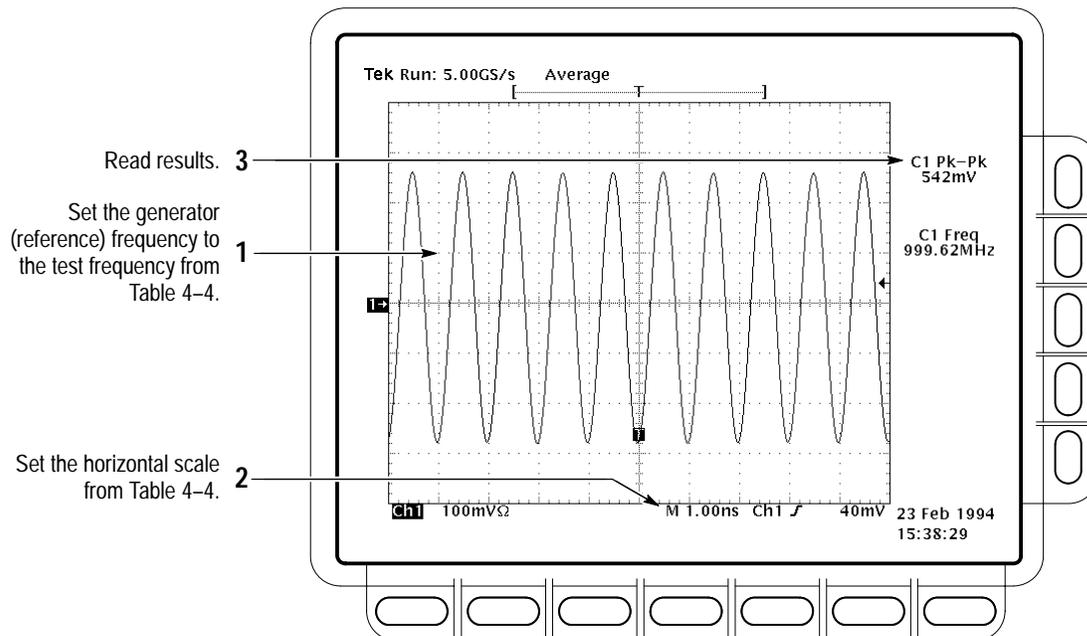

Figure 4-9: Measurement of analog bandwidth
- Set the frequency of the generator, as shown on screen, to the test frequency in Table 4-4 that corresponds to the vertical scale set in substep d. See Figure 4-9.
- Read the results at the CHx Pk-Pk readout, which will automatically measure the amplitude of the test signal. See Figure 4-9.